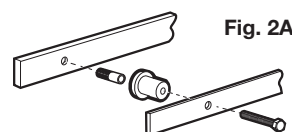

Figure 2A
Drill pilot hole. Insert lag bolt (X) through first track hole, then place the track spacer (S) through the bolt on back of the track. Install the lag bolt with ½" socket ratchet. Do not tighten fully. Swing the track up and use the level to ensure the track is straight. Mark the remaining holes in the track. Drill remaining pilot holes. Slide the door stopper (T) onto the track for the end of the track where you installed the first bolt so it is between the first and second holes on that end of the track. Install the center bolt and spacer on the track. Install the remaining bolts and spacers. Go back and fully tighten the first bolt. Slide the remaining stopper onto the other end of the track. Do not set either stopper at this point. **Refer to Figures 2A, 2B & 2C.**